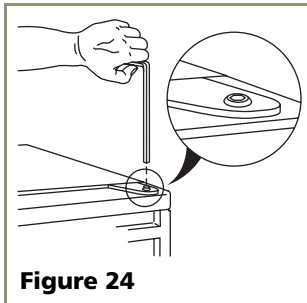

Figure 24
1. Remove top hinge screw pin (7/64" Allen wrench or Phillips screwdriver, depending on your unit's construction, see **Figure 24**). Remove door by tilting forward and lifting off bottom hinge pin.